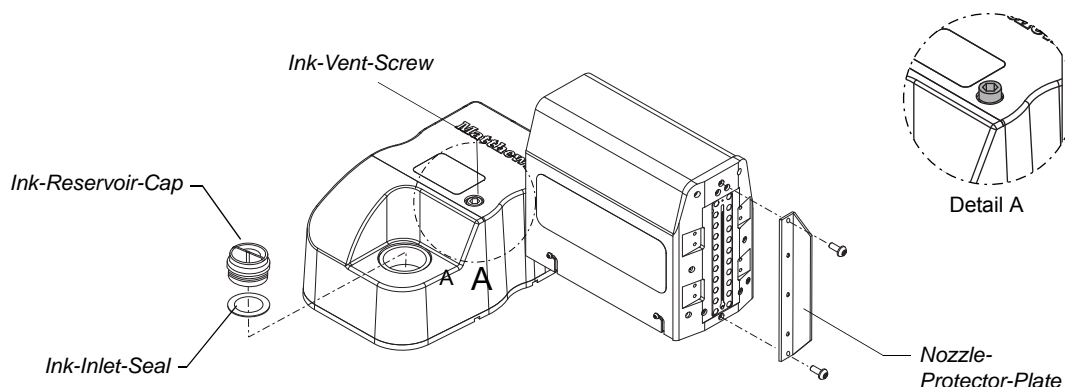

Figure 20 - Nozzle-Protector-Plate
2. Make sure that the *Ink-Inlet-Seal*, inside the *Ink-Inlet*, is not stuck on to the *Ink-Bottle* and that it is correctly seated inside the *Ink-Inlet*. Refer to Figure 20 on page 22.